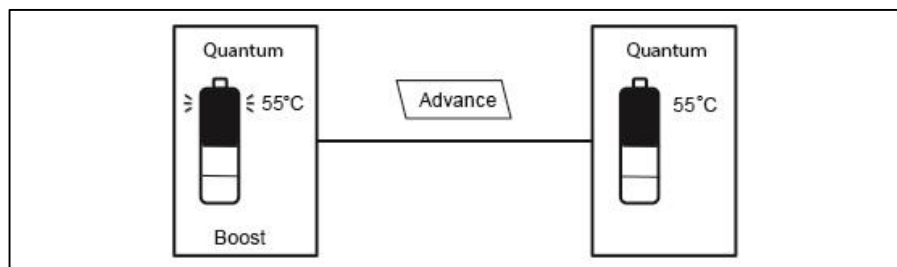

Figure 19: How to Activate and De-activate the Boost Immersion Heater
- press the advance button again to de-activate (see Figure 19)